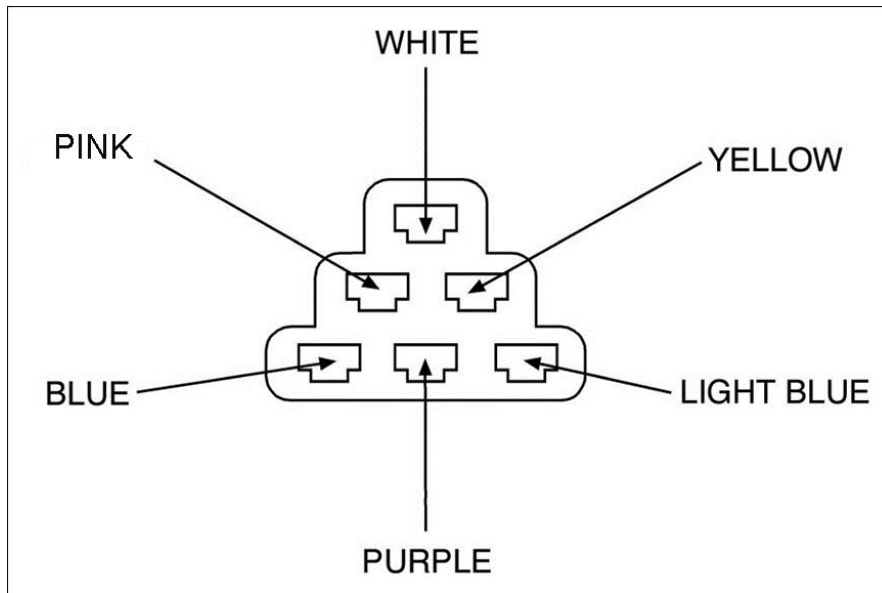

Figure 9.2 Chevrolet Turn Signal Connection (Factory Style Connector)
- 9.1** In the parts box, there is a special turn signal switch connector housing, along with 6 terminals for connecting the harness to the factory signal switch. See **Figure 9.2** for wire pinout diagram, and **Table 9.3** for the wire # and circuit designation.